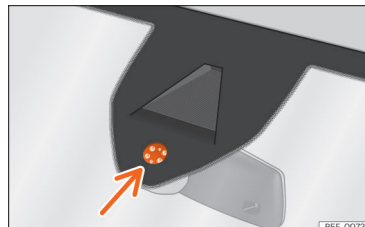

Fig. 79 Rain sensor sensitive surface
The possible causes of anomalies and erroneous interpretations *in the sensitive surface area* »» Fig. 79 of the rain sensor are, among others:
- **Dirt:** dry dust, wax, coating on glass (Lotus effect) or traces of detergent (car wash) may reduce the effectiveness of the rain sensor or make it react more slowly, later or not at all. Regularly clean the sensitive surface of the rain sensor »» Fig. 79 (arrow) and check for possible damage to the wiper blades.